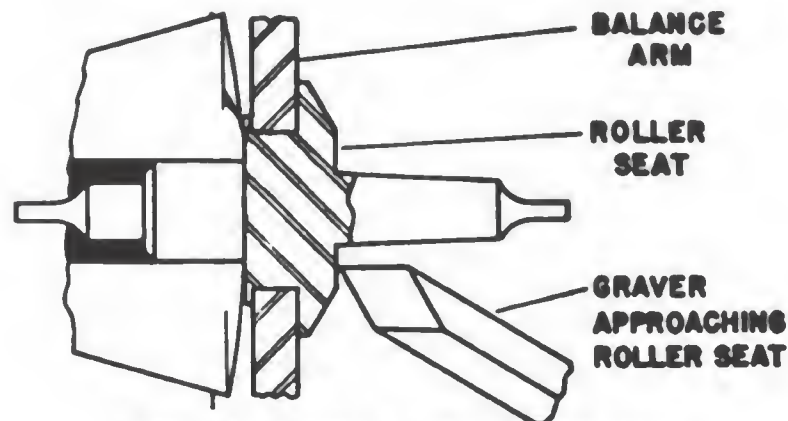
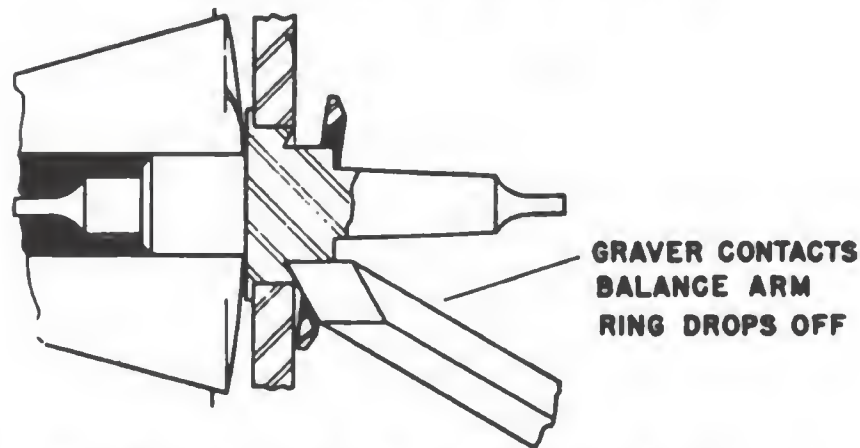

Figure 78. — Turning off roller seat with graver.
Figure 79. — Ring dropping off when graver touches balance arm.
*balance staff* from its balance wheel, the staff and wheel are chucked in a lathe with the roller shoulder extending from the chuck. A pointed graver is used to cut into the roller seat, as shown in figure 78. This turns off the hub of the staff. As this part is being removed, the graver's edge approaches the balance arm. In figure 79, the graver has just touched the balance arm, allowing the ring of metal which formed the balance seat to drop off. In most cases the balance wheel can then be slipped